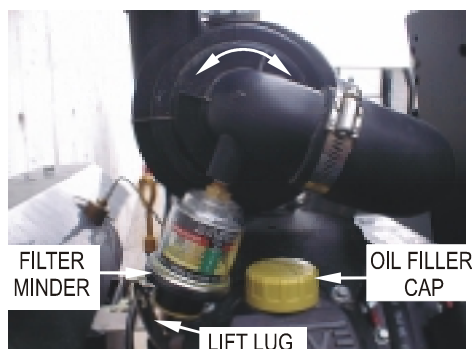

FIG. 3
- f) If the unit has a filter minder, rotate the air intake elbow as needed to create enough clearance between the filter minder and the oil filler cap to remove and replace the oil filler cap easily. See Figure 3.